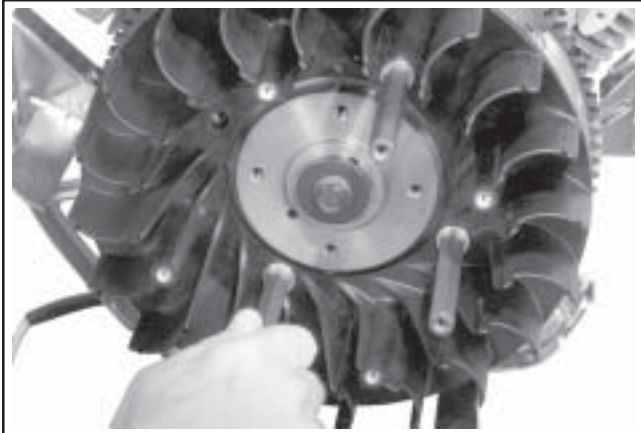

**Figure 11-31. Installing Plastic Grass Screen.**
1. If the engine has a plastic grass screen, snap the screen onto the fan. See Figure 11-31. Due to the possibility of damaging the posts during removal, install the retainers on different posts from which they were removed. Start the retainers by hand, then push them down with a 13 mm (1/2") socket until they lock. If the engine has a metal screen, it will be installed later.